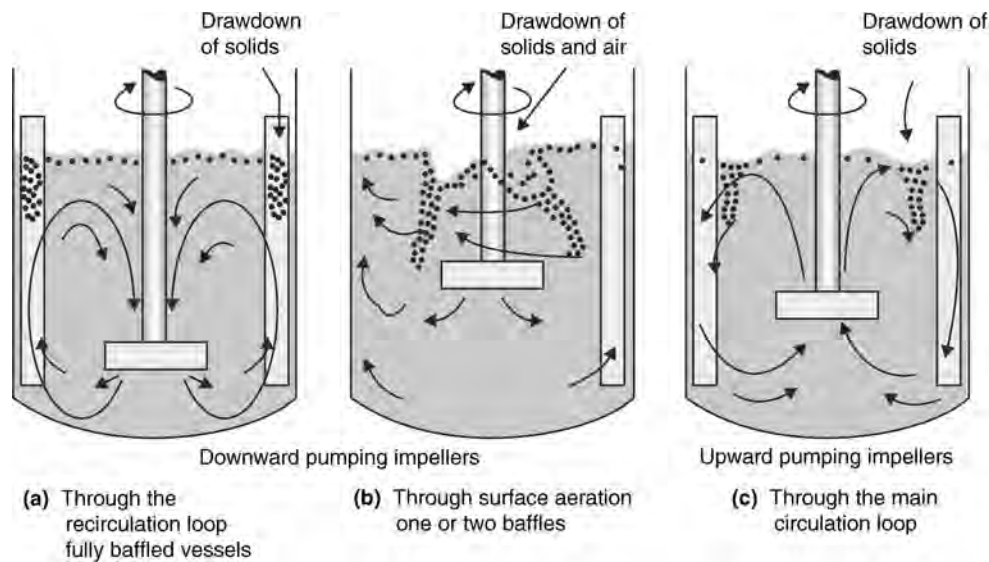

FIGURE 6.10 Incorporating floating solids into liquids.
- Figure 6.10 is a schematic illustration of how solids can be entrapped from the surface, depending on the impeller pumping mode, position, and number of baffles.